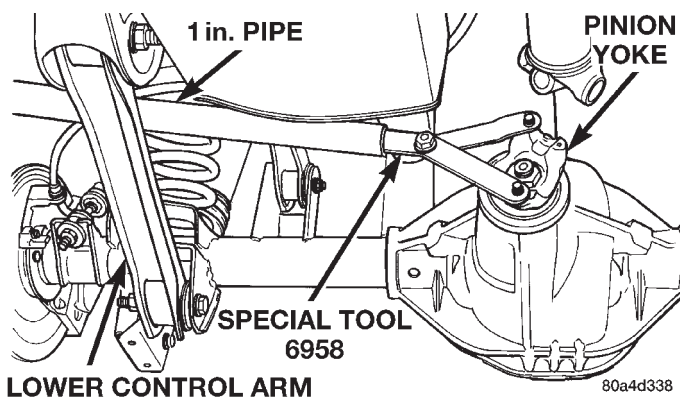

Fig. 16 Pinion Yoke Holder
- (1) Raise and support the vehicle.
- (2) Remove wheel and tire assemblies.
- (3) Remove rear brake rotors and calipers. Refer to Group 5, Brakes, for proper procedures.
- (4) Mark the propeller shaft and pinion yoke for installation reference.
- (5) Remove the propeller shaft from the yoke.
- (6) Rotate the pinion gear a minimum of ten times. Verify that the pinion rotates smoothly.
- (7) Measure the amount of torque necessary to rotate the pinion gear with a (in. lbs.) dial-type torque wrench. Record the torque reading for installation reference.
- (8) Using a short piece of pipe and Holder 6958 to hold the pinion yoke, remove the pinion nut and washer (Fig. 16).
- (8) Remove differential assembly from axle housing.
- (9) Using Holder 6958 to hold yoke and a short length of 1 in. pipe, remove the pinion yoke nut and washer (Fig. 16).